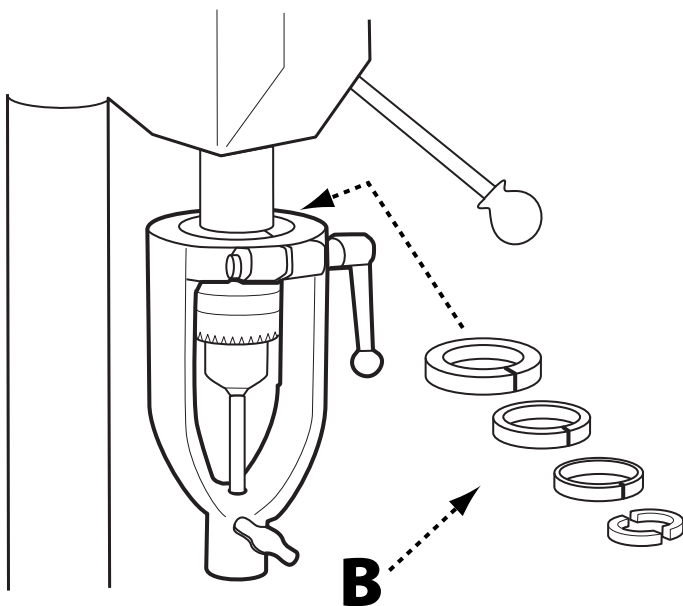

FIGURE 2
Use various combinations of two-piece and split bushings (B) with the chisel holder to find the combination that matches the diameter of the quill. See Figure 2. When fitted with the right combination, the chisel holder should fit snugly around the quill.